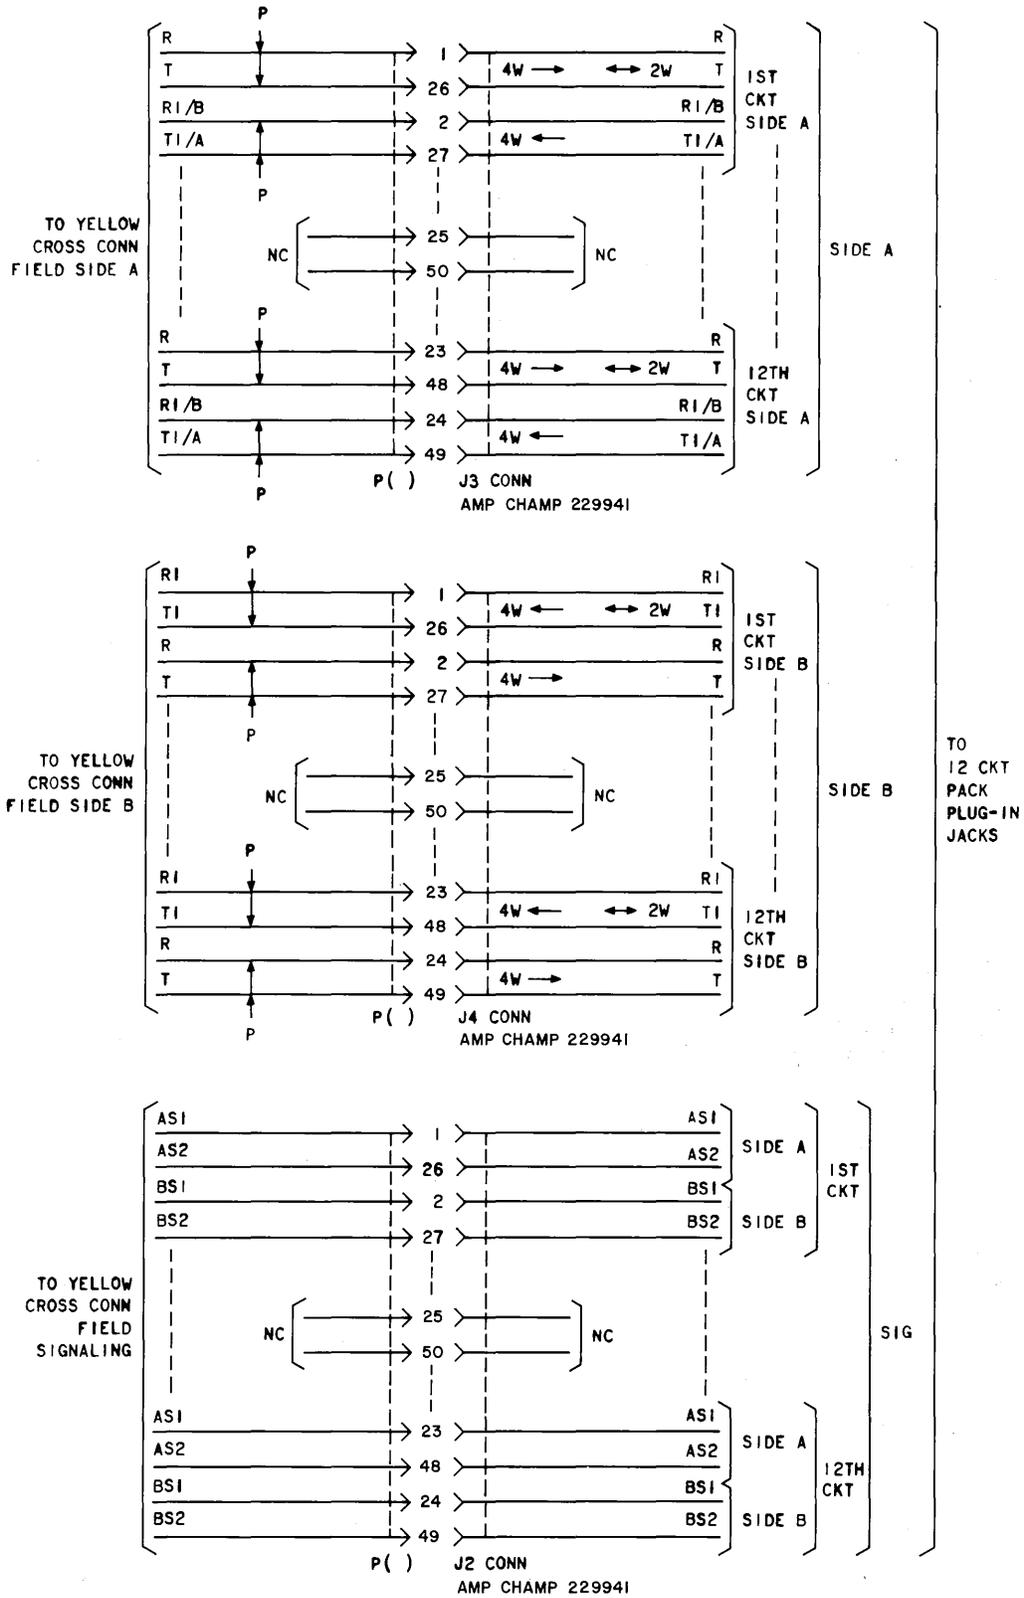

Fig. 10—J99380F Shelf Connector Interface
4.14 The J99380F shelf has mounting space for 12 MFT transmission units, or 12 MFT LSEs, or any combination of these totaling 12. No signaling units other than the LSE should be mounted in this shelf. Each of the 12 slots of the shelf is wired for 4-wire transmission and A and B signaling leads in each direction as shown in Fig. 10.
4.15 As shown in Fig. 10, the transmission and signaling leads of the J99380F shelf are terminated in AMP CHAMP 229941 connectors J2, J3, and J4. The A side of the MFT transmission unit is connected to J3; the B side, to J4; and the signaling leads of both sides, to J2. Power for the MFT units is connected through an AMP CHAMP 552300-1 connector J5 to a J99380H or J feature panel.